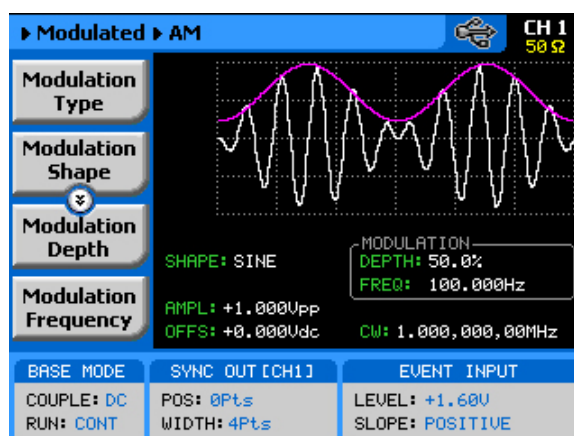

Figure 3-34, AM Menus
The AM function enables amplitude modulation of a carrier waveform (CW). The carrier waveform is modulated by an internal waveform, normally referred to as envelope waveform. The envelope waveform can be selected from sine, triangle square or ramp shapes. When AM is selected, the menus that are associated with AM become accessible. These are shown in Figure 3-34.